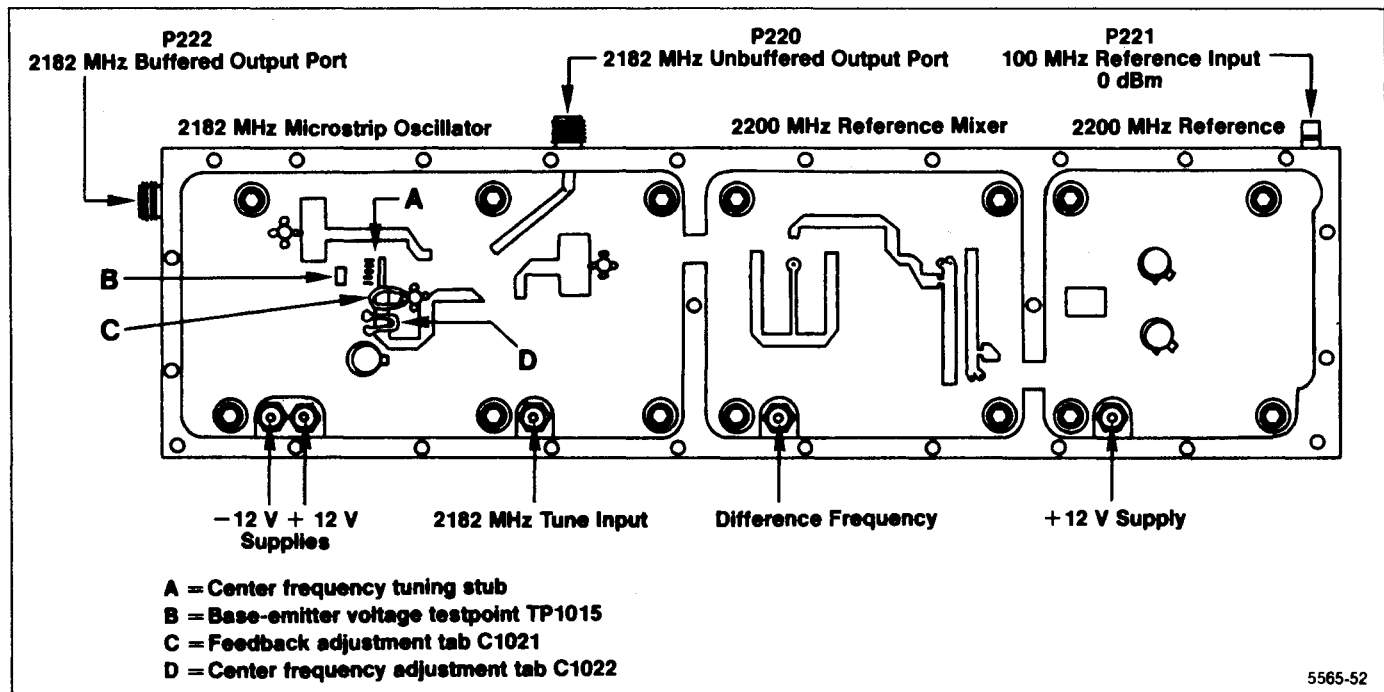

Figure 6-21. 829 MHz Converter oscillator adjustment and test point locations.
Install a 50 Ω terminator on the 2182 MHz buffered output port, P222, (see Figure 6-21).
e. Bend the feedback and frequency adjusting tabs, C1021 and C1022 (see Figure 6-21) so they are approximately 30 degrees above the board surface.
h. Check Vbe at TP1015 (B in Figure 6-21). If Vbe is greater than +0.5 V, push the feedback adjustment tab down slightly and if less than -0.3 V, lift the tab. If Vbe is greater than +0.8 V, replace the microstrip oscillator board. If Vbe is more negative than -1 V, check the bias circuitry. Adjust the tab so Vbe is +0.15 V, \pm 0.05 V at TP1015. Do not touch the feedback tab while measuring voltages.
i. Check that the 2nd L.O. signal (frequency) is within one major division of the center graticule line (2.181 GHz to 2.183 GHz). Bend the frequency adjustment tab C1022 (D in Figure 6-21) to bring the oscillator within tolerance. (Bend the tab up to increase frequency and down to lower frequency.) If unable to bring the oscillator frequency within range, replace the 2182 MHz Oscillator board.
b. Confirm that the output signal frequency is 18 MHz \pm 1 MHz. Adjust the tab C1022 (Figure 6-21) for the 2182 MHz Microstrip Oscillator, to bring the 18 MHz within the 1 MHz tolerance.